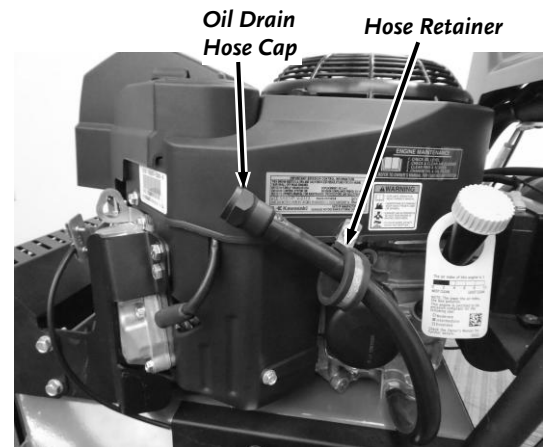

Figure 29
2. Unscrew the Oil Drain Cap counterclockwise to open the end of the Drain Hose Assembly (**Figure 29**).